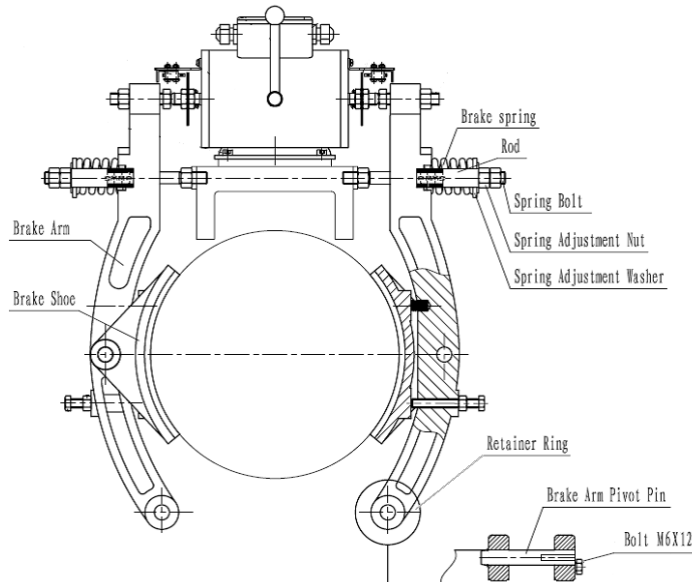

Figure 34 Normal Brake Lining
2. Loosen the spring adjustment nut & washer, taking the pressure off the brake spring. See Figure 34.
4. Remove the brake arm pins by pulling on the bolt installed in Step (3).
2. Install the pressure spring into the hole of the brake arm, and attach the brake lining with the pin and the snap ring. See figure 34.